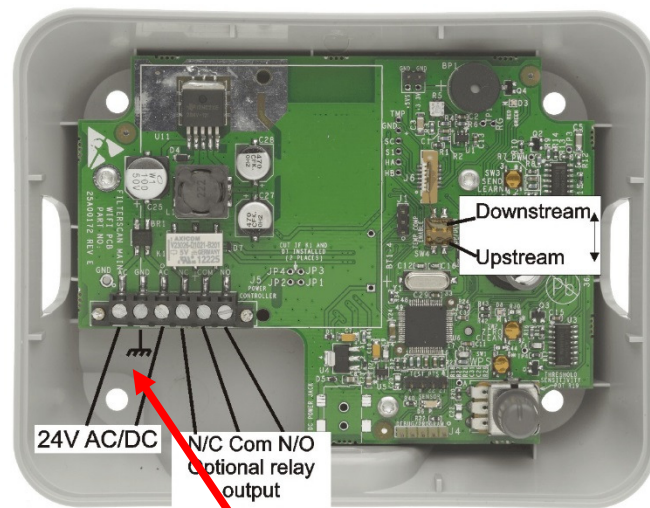

Figure 10: Inside of the FS-245-C FILTERSCAN WiFi monitor
8. **IMPORTANT!** Set the Upstream/Downstream switch shown in Figure 10 so that it matches the **FILTERSCAN WiFi Air Filter Monitor**'s position with respect to the air filter (that is, OFF for upstream mounting or ON for downstream or differential mounting). Please see the APPENDIX for 'Various HVAC Configurations for Monitor Installation' configurations.
2. Locate the six terminals on the left-hand bottom corner of the printed circuit board illustrated in Figure 10. Connect 15 to 24V AC or DC to the 1st and 3rd leftmost terminals as shown. The 2nd leftmost terminal is for earth ground connection, if available. **DO NOT CONNECT IF THE HVAC SYSTEM'S AUX POWER HAS ANY LEG CONNECTED TO EARTH GROUND!**